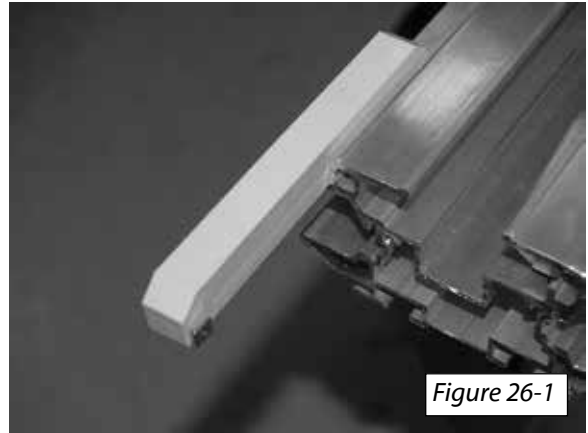

Figure 26-1
2. Insert the upper limit cam into the end of the rail. *[Figure 26-1 and 26-2]*